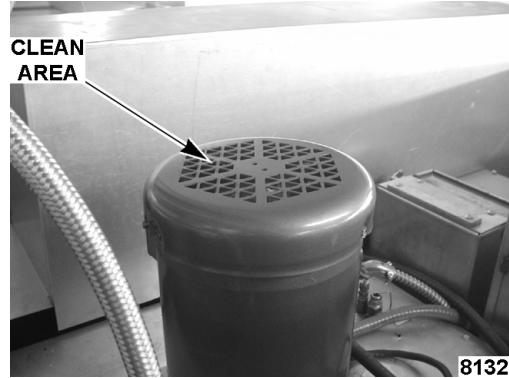

Fig. 3
3. Gain access to the top of oven and clean dust that may have accumulated on top of circulation blower motor (Fig. 3) and motor cooling fan.